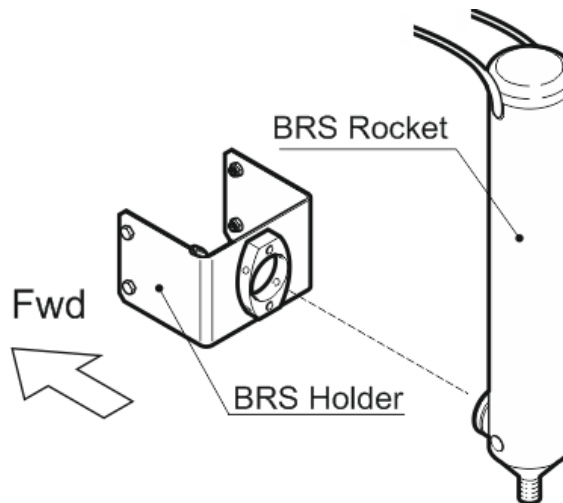

Figure 6 - BRS Rocket and Holder
9. Remove the BRS rocket from the holder and put the rocket on a soft pad carefully, see Figure 6.